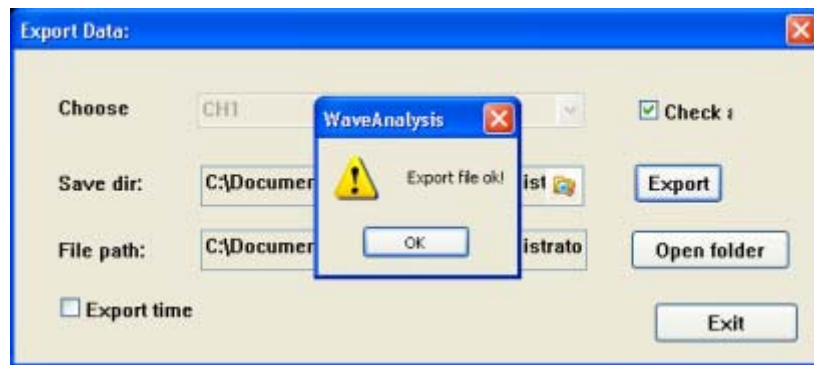

Fig.4-6
**Export data:** It is used for exporting the current data of “\*.CSV” format on the software to a computer hard disk or another storage medium. See Fig.4-6.